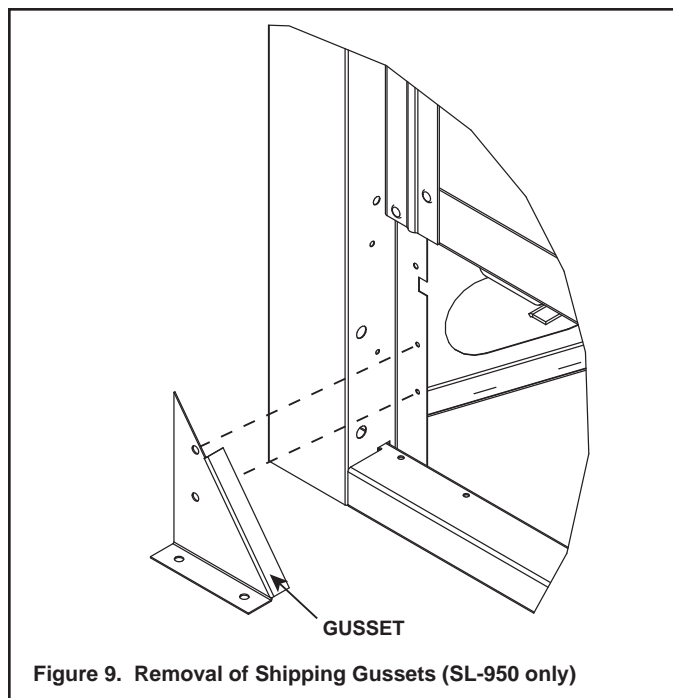

Figure 9. Removal of Shipping Gussets (SL-950 only)
2. When installing a door on an SL-950 fireplace the gussets must be removed. These gussets are located on the lower left and right corners of the fireplace opening. Each gusset is held in place by four screws. See Figure 9.